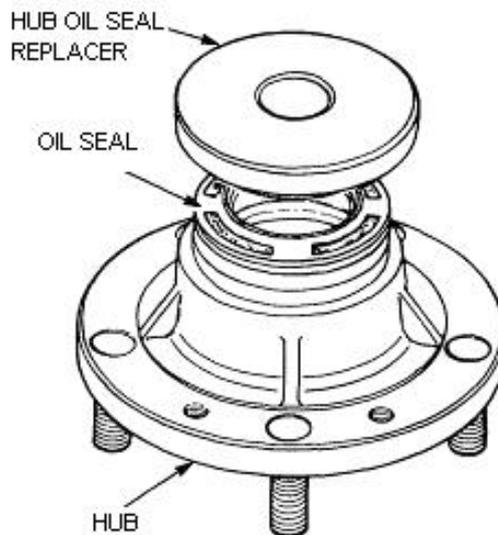

Figure 102 Hub Oil Seal Installation
- b. Using the hub oil seal replacer (Table 3, Serial 7) and the bearing and oil seal replacer (Table 3, Serial 11), press the new oil seals into the hub with the seal lip towards the hub bearing (Figure 102).